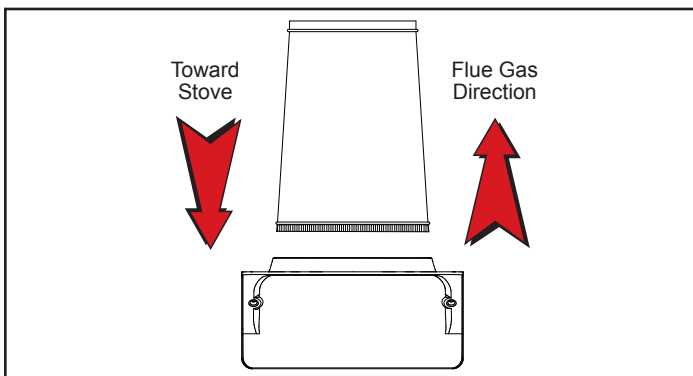

Figure 5 - Chimney connector.
- Begin assembly at the oval flue collar of the stove. Insert the crimped end of the oval-to-round adapter into the stove's flue collar, and keep each crimped end pointing toward the stove. (Figure 5) Using the holes in the flue collar as guides, drill 1/8" (3 mm) holes in the bottom of the first section of chimney connector and secure it to the flue collar with three #10 x 1/2" sheet metal screws. Lift off the griddle, and shield the stove's surface between the griddle opening and the front of the flue collar to protect the finish when you drill the front hole.